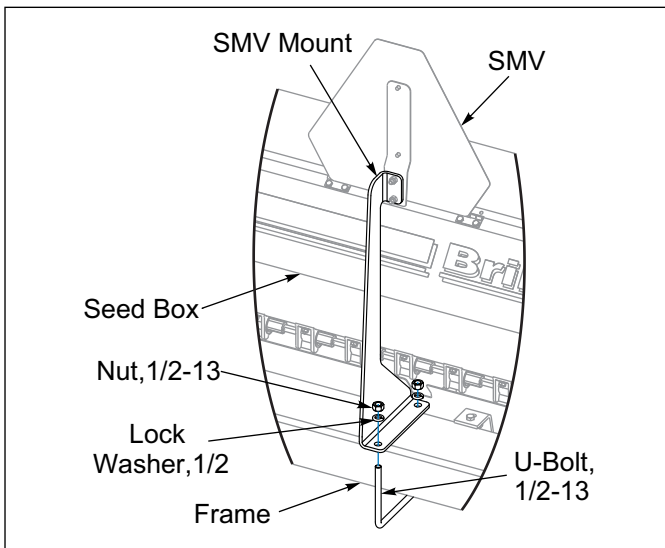

Figure 2-1: SMV Mount, 8FT
4. **8FT Seeders:** Install SMV Mount to Seed Box Frame with 1/2-13 U-Bolt, Lock Washers and Nuts. **See Figure 2-1.**
5. **8FT Seeders:** Install SMV Mount to Seed Box Frame with 1/2-13 U-Bolt, Lock Washers and Nuts. **See Figure 2-1.**